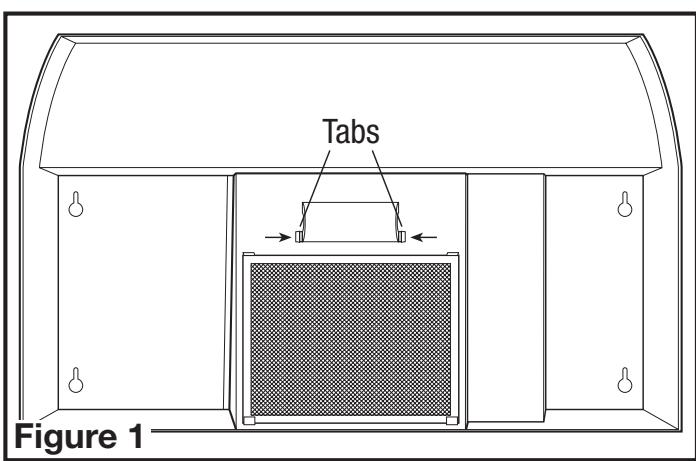

Figure 1
3. Remove lamp cover by squeezing the two tabs together (Figure 1):